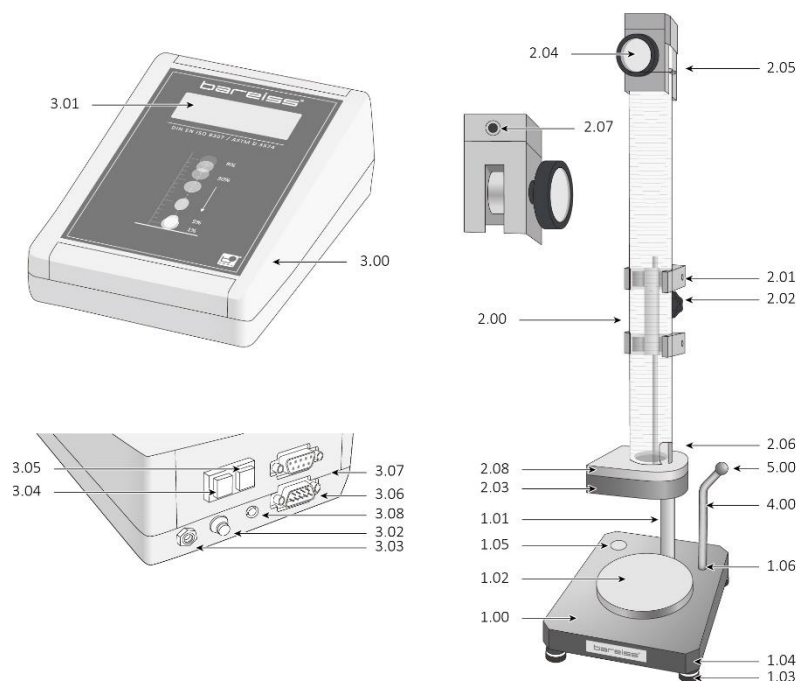

Fig. 4 Setting up the test stand and electronic unit
- Switch the testing device on by pressing POWER switch (3.02, Fig.4).
The display (3.01, Fig.4) reads: